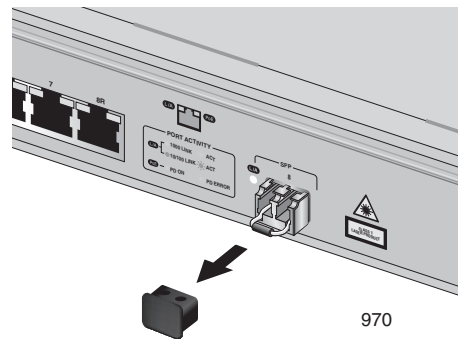

Figure 12. Removing the Dust Cover from the SFP Transceiver
1. Remove the dust cover from the SFP transceiver, as shown in Figure 12.